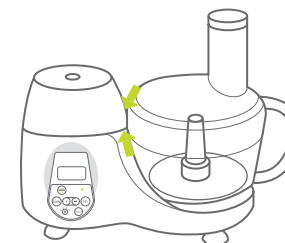

Fig. 14
2. Holding the cover by the feed tube fit the cover by rotating clockwise ensure that the safety interlock has clicked into place. (Fig.14)